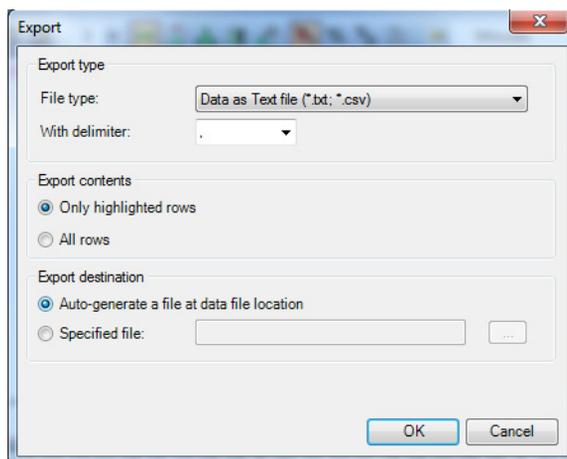

Figure 6 Export Find by Formula results to a Text file.
- b Right-click anywhere in the compound list and select **Export**. See Figure 6.